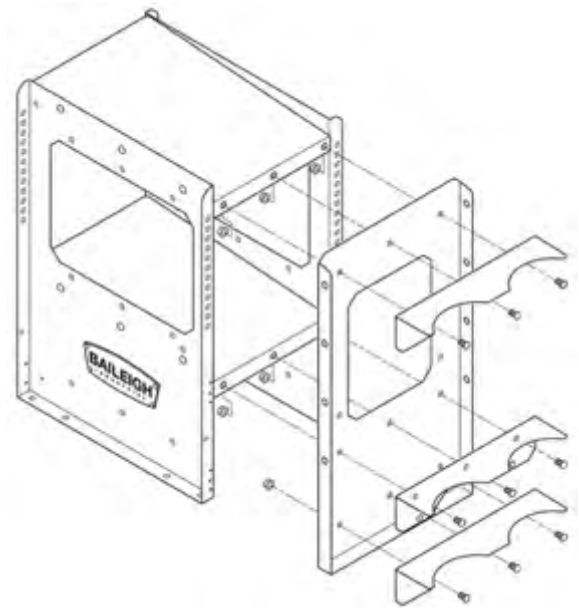

Figure 4-3
3. Using nine M8 x 20 Round-Head Square-Neck Carriage Bolts (item #2) with M8 Flanged Nylock Hex Nuts (item #4), attach End Panel (item #15) and three Tank Supports (item #16) to the Shelf/Side Panel assembly as shown in Figure 4-3. Attach to the end of the Shelf/Side Panel assembly where the Angled Shelves are at their lowest point. For the top and middle Tank Supports, insert the Carriage Bolts through the Tank Supports, End Panel, and Angle Shelves. For the bottom Tank Support, only insert the Carriage Bolt through the Tank Support and End Panel. **Do not fully tighten nuts at this time.**